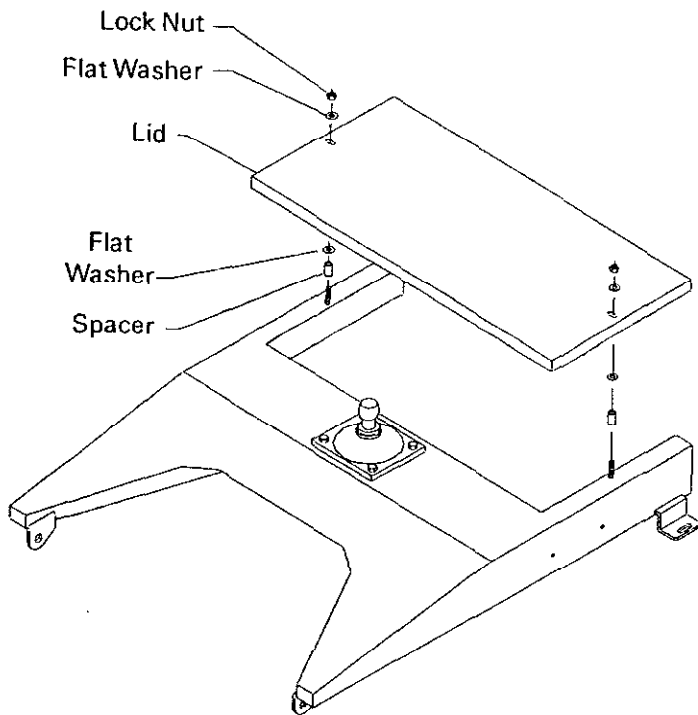

Figure 6
7. Install cover of 5th wheel hitch plate and secure with hardware shown in Fig. 6.